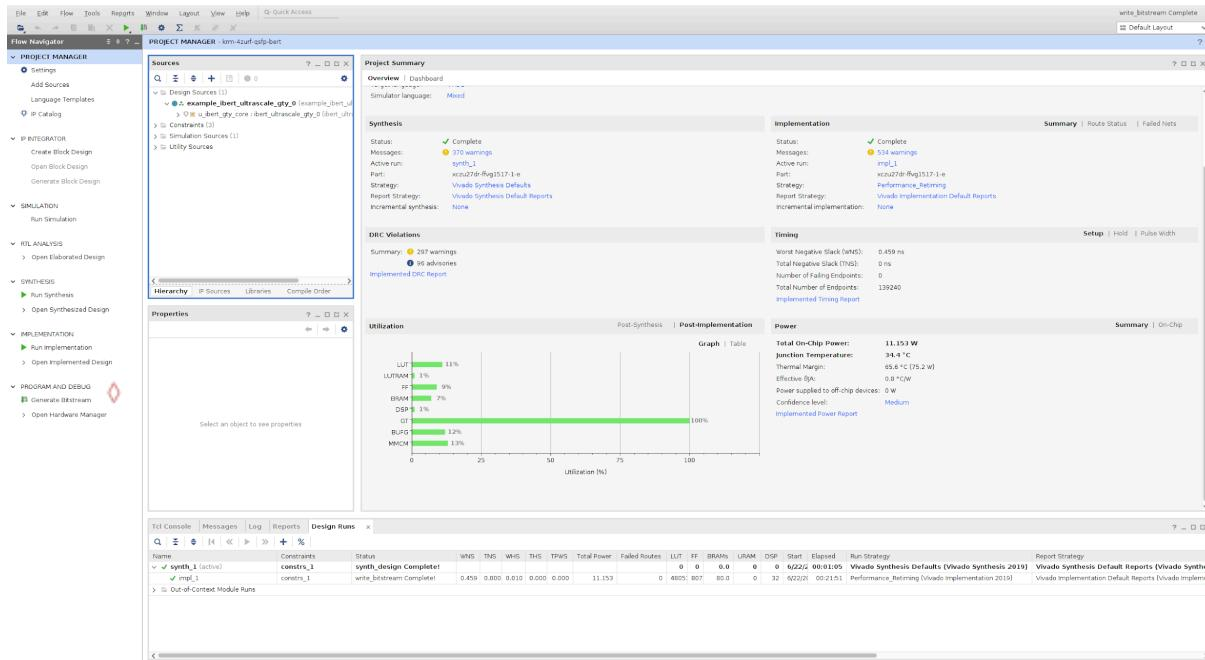

Figure 12. qsfp-bert Vivado project
4. “Generate Bitstream” (see ◊ mark on Figure 12)
4. “Generate Bitstream” (see △ mark on Figure 12)